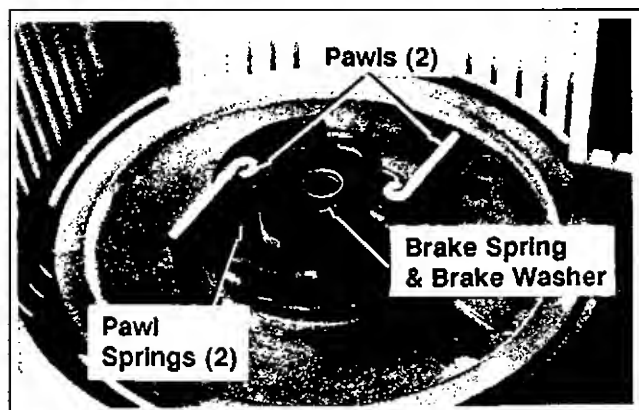

Figure 7-6. Brake Spring And Washer, Pawls, And Pawl Springs.
3. Remove the brake spring and brake washer. See Figure 7-6.